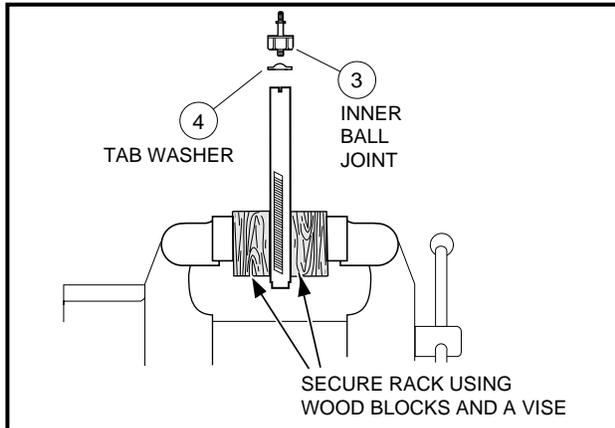

Figure 7-11 Secure Rack In Vise
13. If the inner ball joint (3) is excessively worn, remove the ball joint and tab washer (4) from the rack by securing the rack in a vise. Using wood blocks between the rack and the jaws of the vise to protect the rack from damage, loosen and remove the inner ball joint with a wrench (**Figure 7-11, Page 7-9**).
1. Install a new tab washer (4) and a new inner ball joint (3) (**Figure 7-13, Page 7-11**). Install the ball joint onto the rack by securing the rack in a vise using wood blocks between the rack and the jaws of the vise to protect the rack from damage (**Figure 7-11, Page 7-9**). Tighten the ball joint to 58 ft.lb (78.6 N-m).